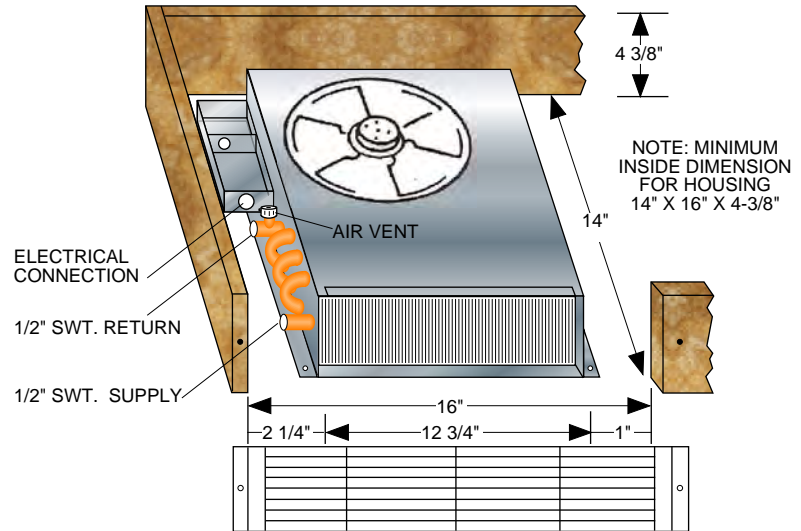

FIG. 1 UNDER-COUNTER INSTALLATION
- C. Cut an access panel at least 13 1/2" x 16" under the bottom shelf. Starting at the right edge of the selected location, cut an opening in the toe-space riser at least 4 3/8" x 16" (SEE FIG. 1)